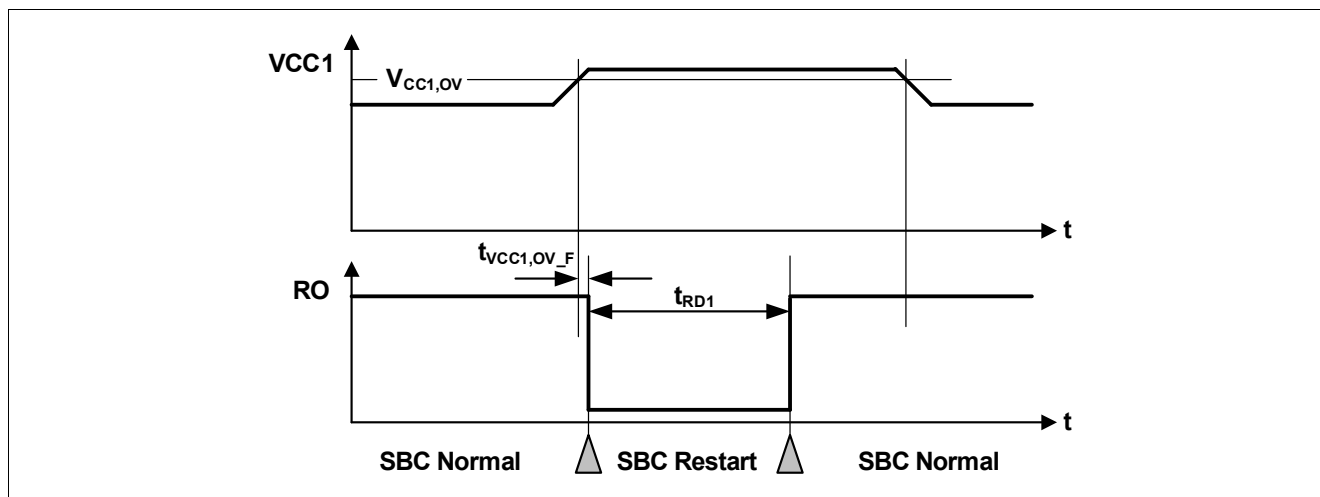

Figure 47 VCC1 Overvoltage Timing Diagram
- If the bit **VCC1_OV_RST** is set and **CFGF** = '1', then SBC Restart Mode is entered. The FOx outputs are activated. After the reset delay time (t_{RD1}), the SBC Restart Mode is left and SBC Normal Mode is resumed even if the VCC1 overvoltage event is still present (see also **Figure 47**). The **VCC1_OV_RST** bit is cleared automatically;